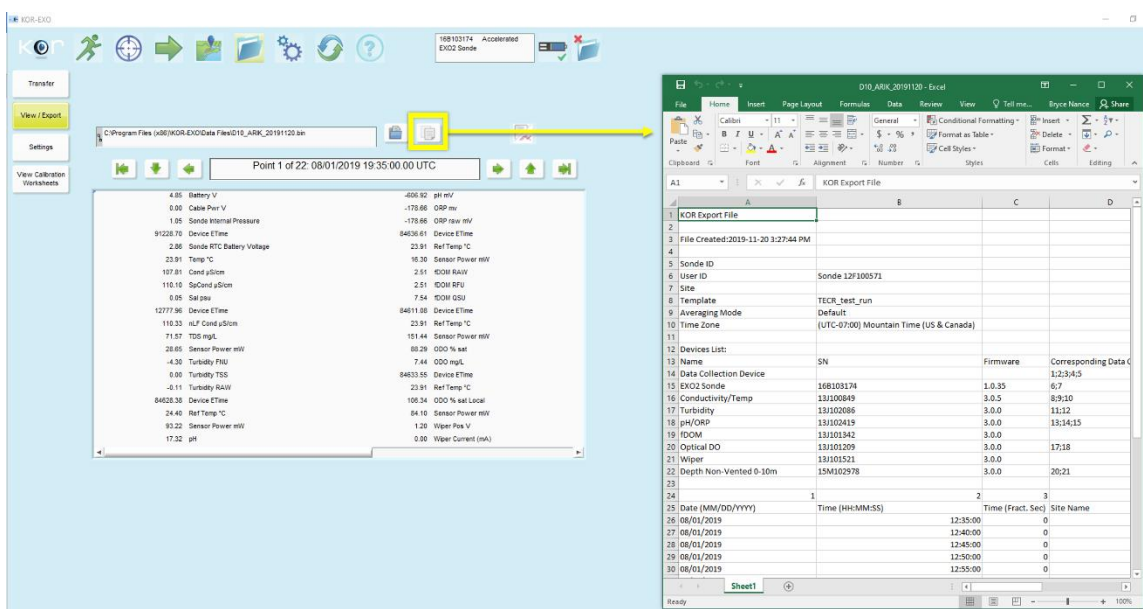

Figure 16. Export Data to MS Excel
- Click on the paper icon to export the data to CSV (called a **KOR Export File** in Figure 16).